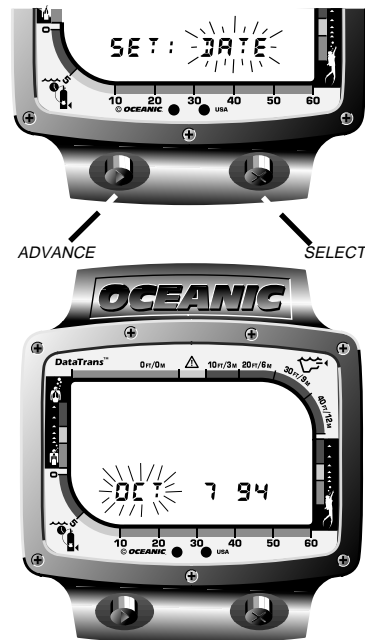

Fig. 13- Date Setting
4. Press the Select button to select the Date setting. The month will appear, flashing (Fig. 13).